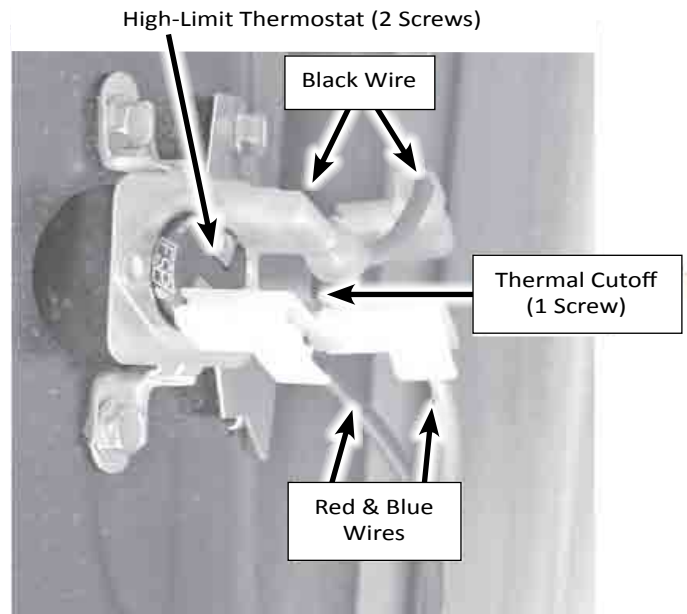

Figure 5
**7. To remove the High-Limit Thermostat or the Thermal Cutoff (see Figure 5):**
- a) Disconnect the two (2) wire connectors from the component terminals.
- b) Remove the two (2) screws from the High-Limit Thermostat, or single screw from the Thermal Cutoff, and remove the component from the venturi.